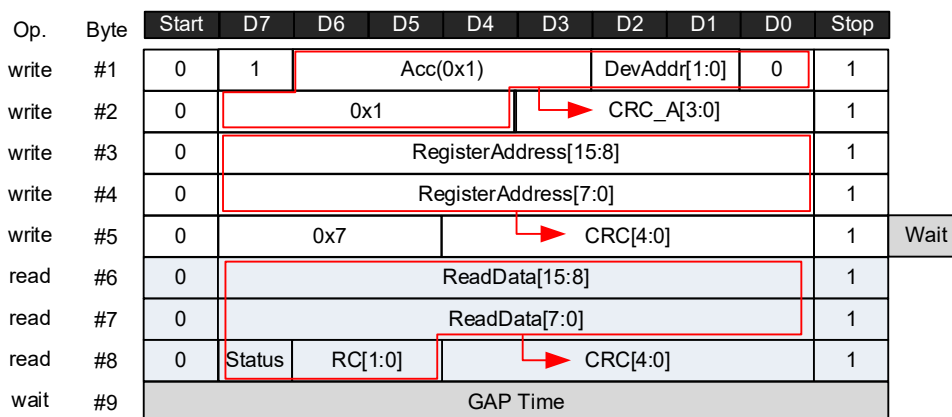

Figure 46. Register Read Mode Frame
- 16-bit register read (Figure 46)
The Read Frame structure can be seen Figure 46 where: